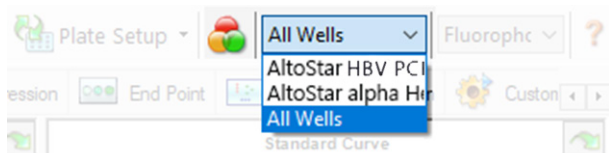

Figure 4: Well Group button and Well Group drop-down menu
In the Data Analysis window ensure to select the **Well Group** of the AltoStar® HBV PCR Kit 1.5. Therefore, click on the **Well Group** drop-down menu right next to the **Well Group** button (see figure 4) of the toolbar. Do not use the “All Wells” **Well Group**. The selection in figure 4 is used as a general example view.
1. In the Data Analysis window ensure to select the **Well Group** of the AltoStar® HBV PCR Kit 1.5. Therefore, click on the **Well Group** drop-down menu right next to the **Well Group** button (see figure 4) of the toolbar.